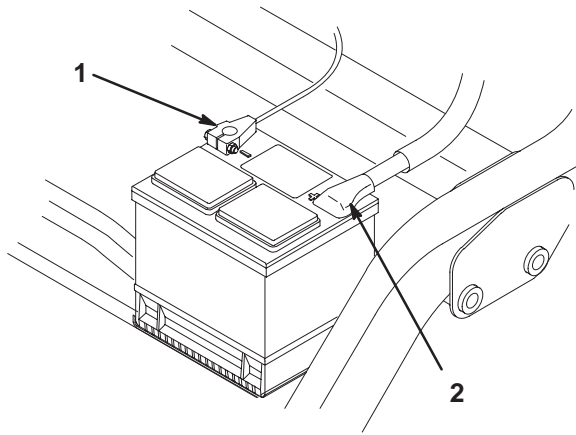

Figure 4
- First, install the positive cable (red) to the positive (+) terminal and then the negative cable (black) to the negative (-) terminal of the battery and secure them with the bolts and nuts (Fig. 4). Slide the rubber boot over the positive terminal to prevent a possible short from occurring.